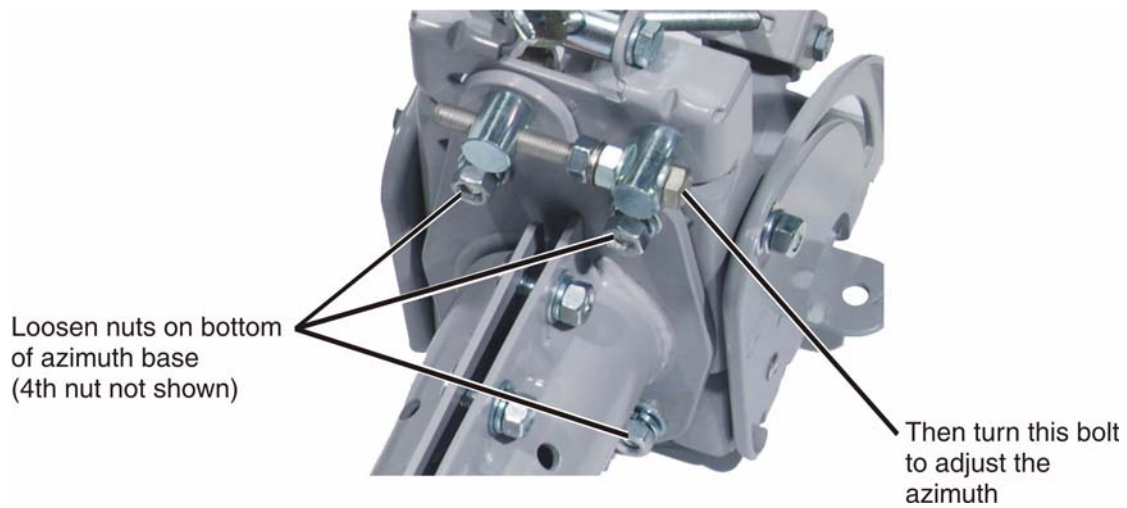

Figure 35: Adjusting the azimuth
4. Loosen the four 5/16-inch carriage bolts on the bottom of the azimuth base, shown in Figure 35.